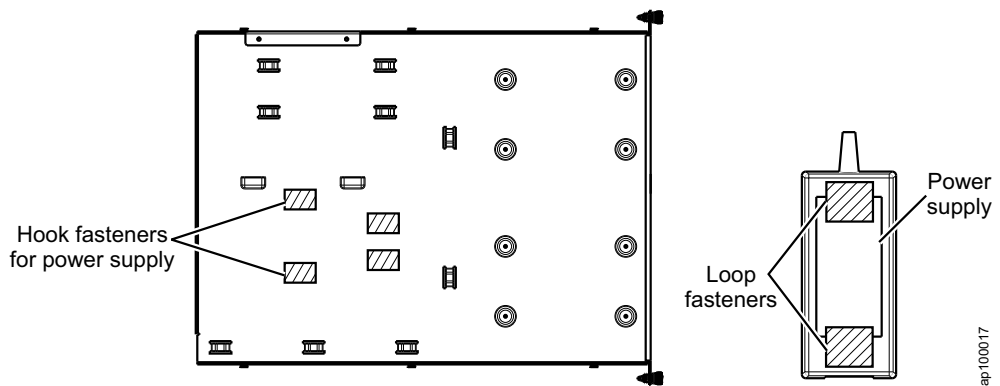

Figure 16. Power supply (bottom view) and position of power supply in the Storage Appliance AP1 tray
9. Attach the two new loop fasteners to the hook fasteners in the tray (Figure 16) and remove the protective backing from the adhesive.
10. Press the replacement power supply firmly on top of the hook-and-loop fasteners in the tray. (Figure 16)